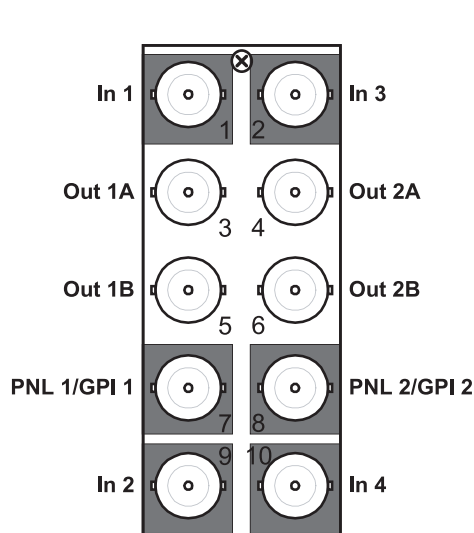

Figure 4.1 Cable Connections for the R1A-8258 and R2A-8258 Rear Modules
Each R1A-8258 occupies one slot and accommodates one card. This rear module provides four inputs, four outputs and two GPI connections. **Figure 4.1.**
- **R2A-8258** Full Rear Module — Each rear module occupies two slots and accommodates one card. This rear module provides four inputs, four outputs, and two GPI connections. **Figure 4.1**